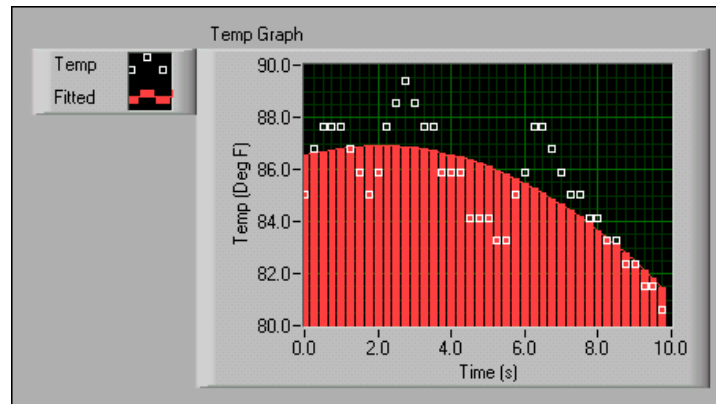

Figure 7.24
- (b) Right-click the Fitted plot display in the plot legend, select Bar Plots from the shortcut menu, and select the second option in the middle row. The waveform graph should appear similar to the front panel in Figure 7.24.